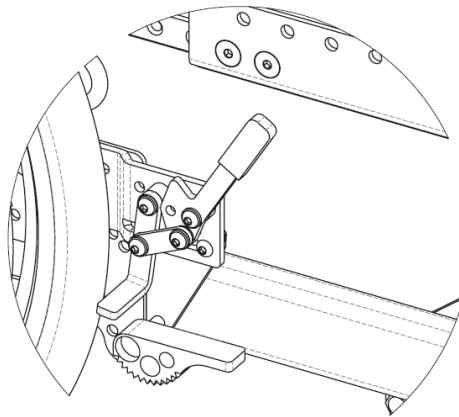

Figure 16.40: *Wheel Locks with Anti-Rollback Device*
6. To engage the anti-rollback device (Figure 16.40), push the anti-rollback cam into the down position.